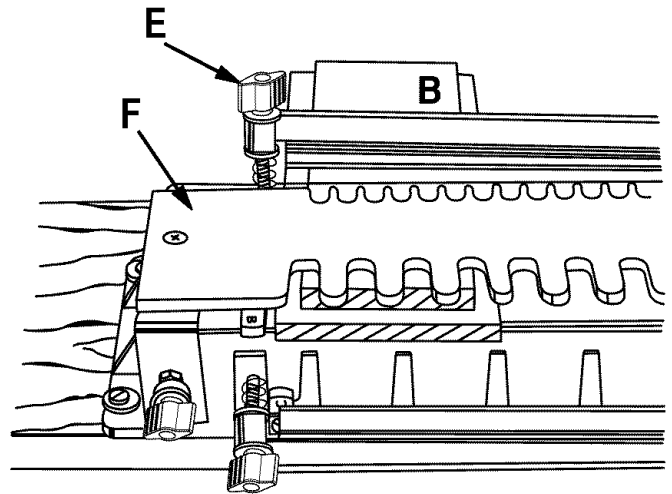

Fig. 37
- See Figure 37. With the dovetail template set-up as shown, cut your joint in board (B) as a single piece.